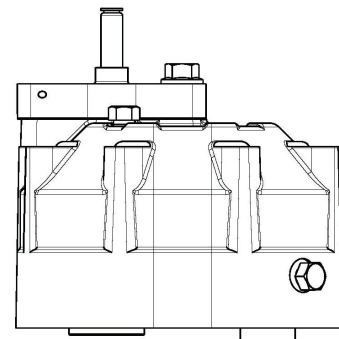

Figure 5 – Two pistons inside the digital cylinder head, one piston sticks out farther by design
15. Visually inspect pistons in head for loose debris. **Note!** The digital head has two internal pistons, one protrudes farther out than the other. This is intentional. See **Figure 5**.